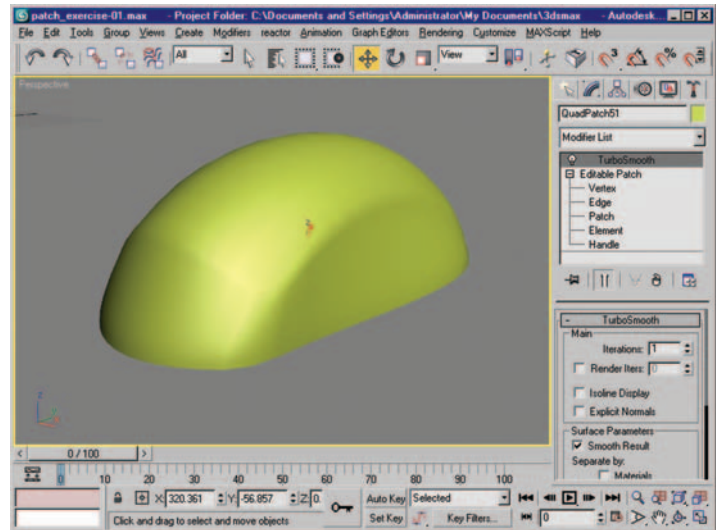

Figure 2.34 Patch-Modeled mouse object.
15. Some minor adjustments in the top and front viewport will result in a nice overall shape to our basic object. Add a TurboSmooth to see the final result (Figure 2.34).